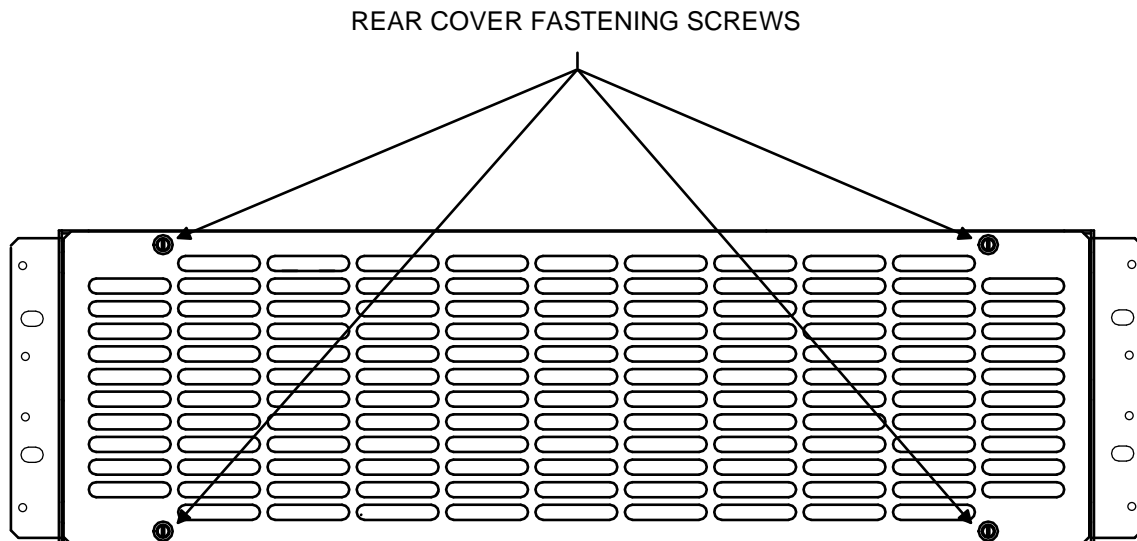

Figure 1
All electrical connections are located at the rear of the DC-DC Converter Mounting Shelf. To gain access to these connections, remove the rear cover from the shelf by first loosening the (4) 6-32 screws that secure it. Refer to Figure 1 for screw location.
After completing and verifying all electrical connections, reinstall the rear cover on the Converter Shelf. Secure with the (4) previously loosened 6-32 screws. Refer to Figure 1 for screw location.